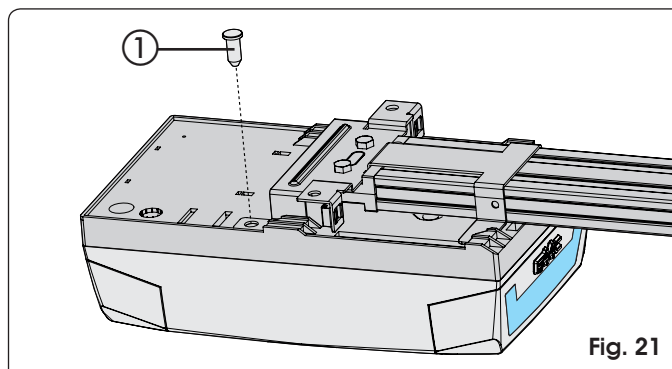
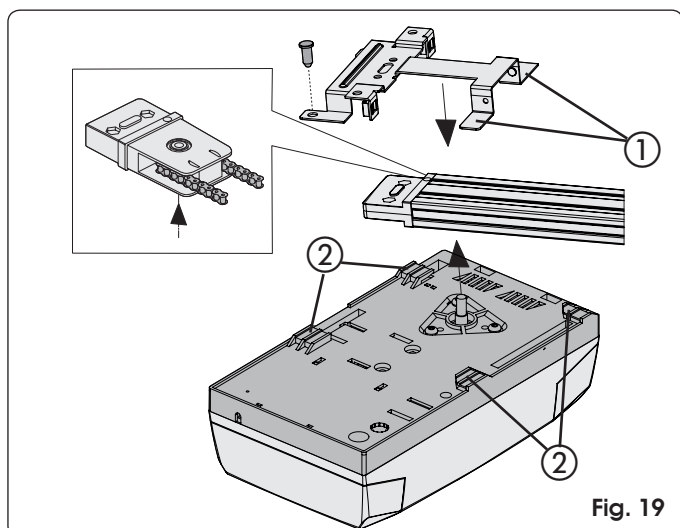
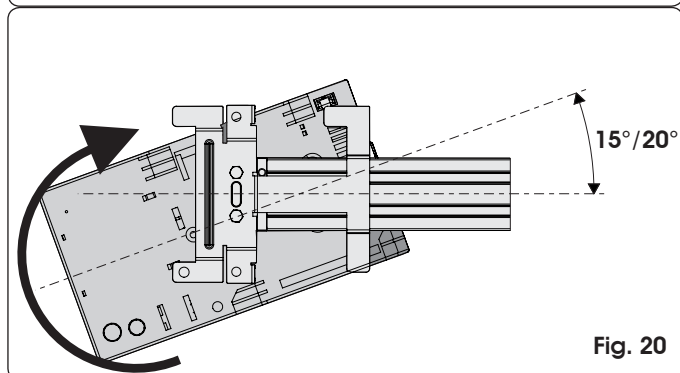

Fig. 21
Fig. 19
Fig. 20
- 1) While keeping the operator inclined at 15°/20° (Fig. 20), insert the gearmotor shaft in the coupling on the rear fitting of the sliding guide and make the fins (Fig. 19 ref. ①) near to the seats at the bottom of the operator base (Fig. 19 ref. ②).
- 2) Turn the operator in the direction of Fig. 20 until you reach position of Fig. 21, and fit the pin in the hole of the rear fitting (Fig. 21 ref. ①).